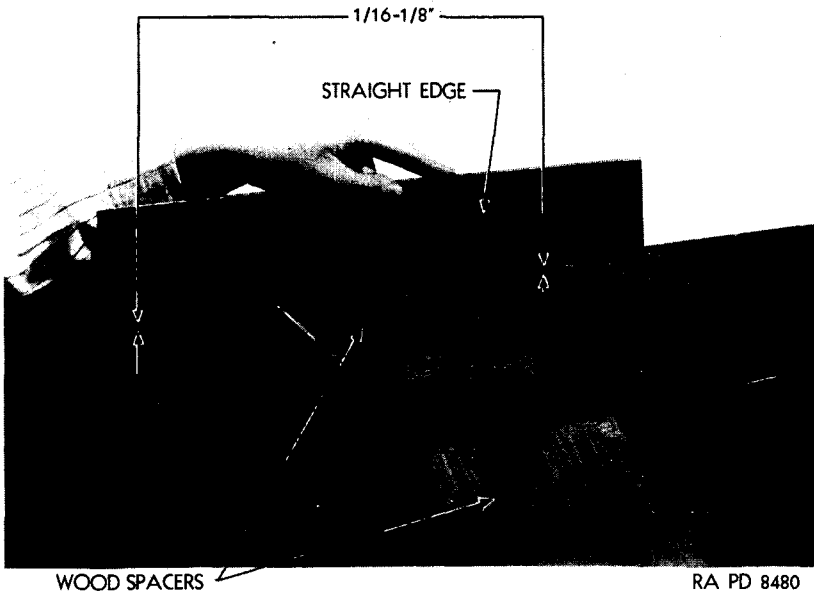

Figure 83 — Alining Fuel Tank Spacer
(4) **CHECK ALINEMENT.** Lay a straightedge across the inner and outer mounting brackets and over the top shim on the fuel tank. Straightedge should rest on shim and should have between $\frac{1}{16}$ -inch and $\frac{1}{8}$ -inch clearance between lower edge of straightedge and top of inner and outer mounting brackets (fig. 83). If clearance is incorrect, straighten clips holding top fuel tank wooden shim to tank and remove shim. Remove or install paper shims between top of fuel tank and wooden shim until proper clearance is obtained. Install wooden shim, bend over mounting clips and recheck tank alinement.